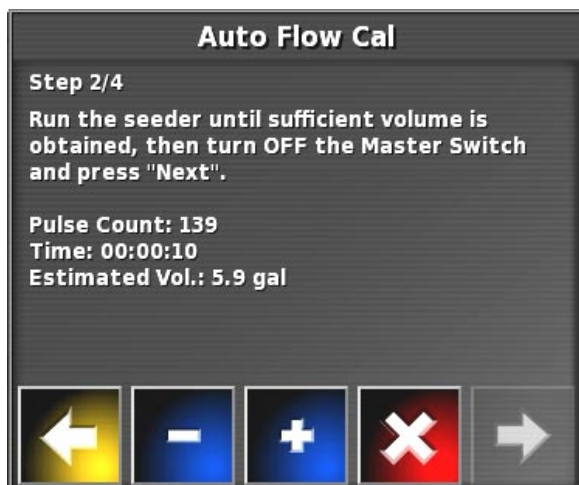

Figure 8.49 - Liquid Calibration Wizard - Screen 2
3. Refer to *Figure 8.49*. Application rate can be adjusted using "+" and "-" buttons. To see the application rate value, it is recommended to have Seeder Controller mini-view open on liquid tank tab, as application rate is not displayed on the wizard window.